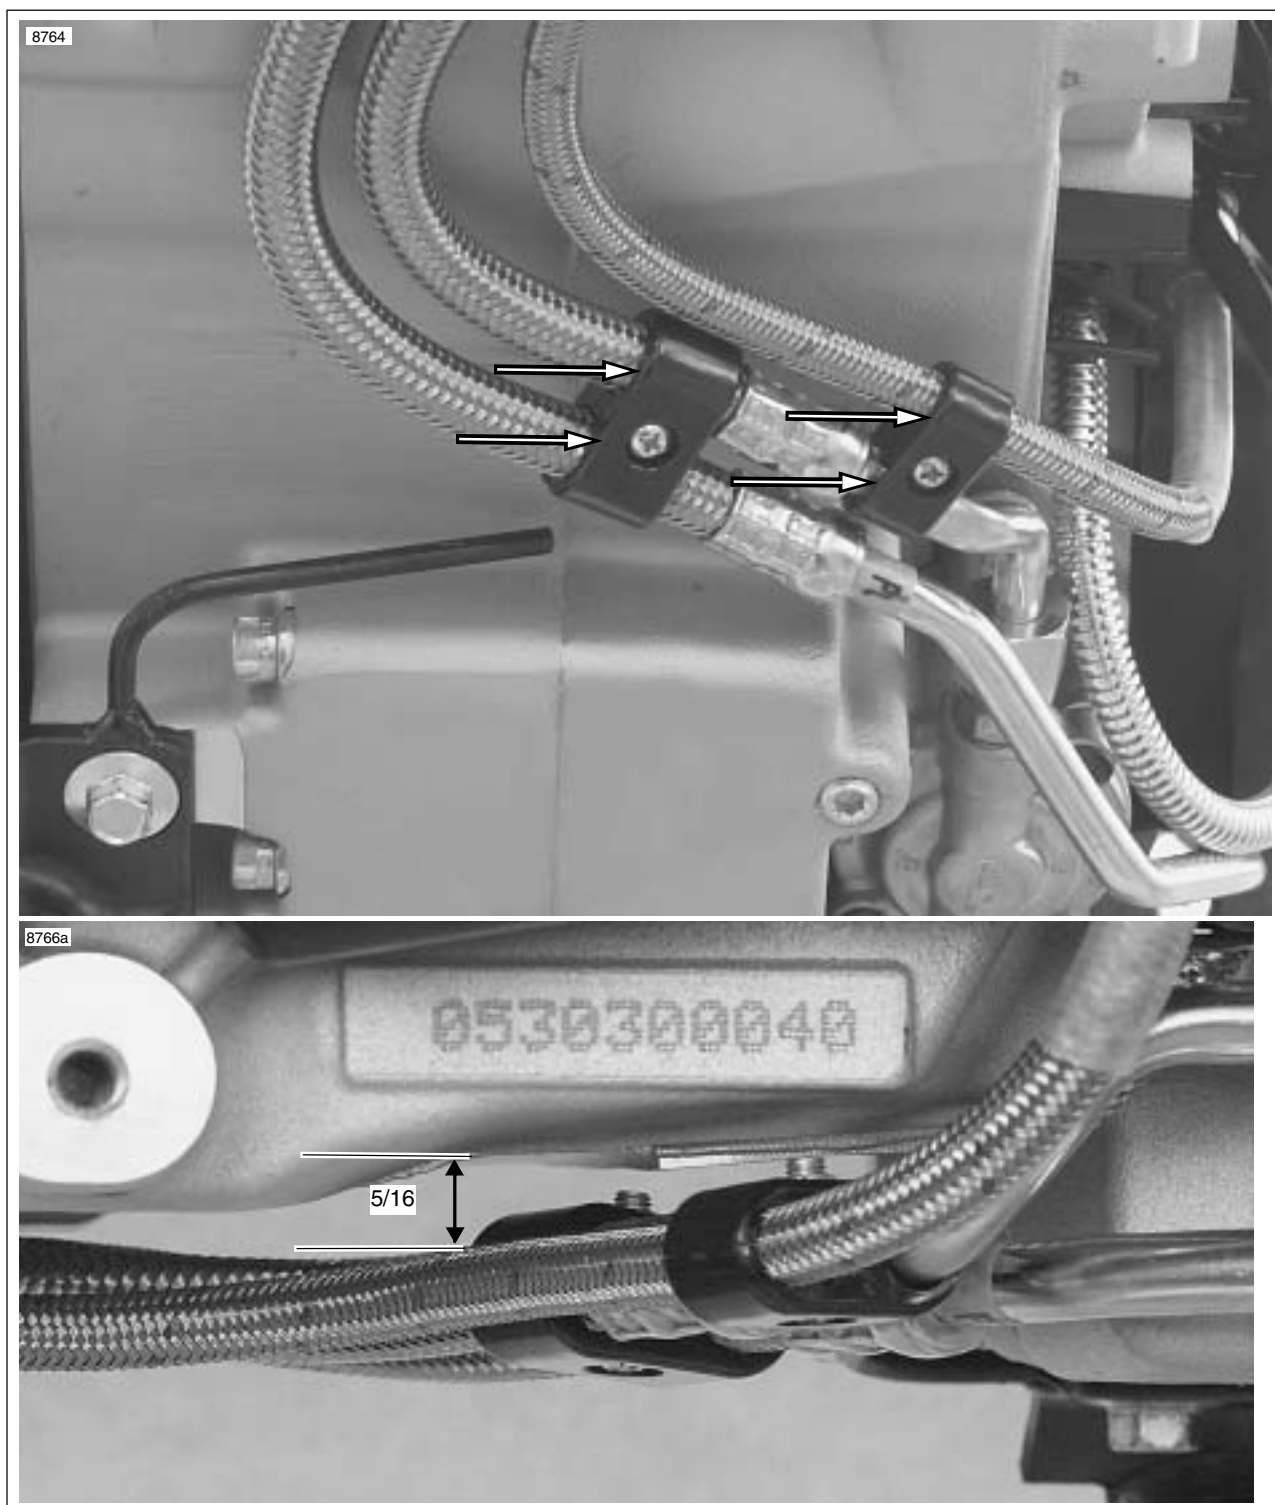

Figure 3-51. Clamp Orientation and Oil Line Spacing
28. See Figure 3-51. Verify that both black plastic oil line clamps are parallel to the crankcases and there is a clearance of 5/16 in. (7.9375 mm) between the bottom of the crankcases and the oil lines.